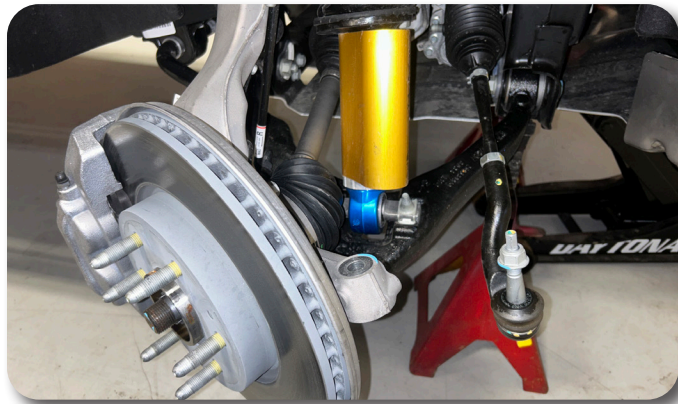

Figure 4
6. Remove the tie rod nut and thread it on until flush with the end of the ball joint. Use a CH-42188-B - Ball Joint Separator to separate the outer tie rod from the steering knuckle. Save nut for later installation. **Figure 4**